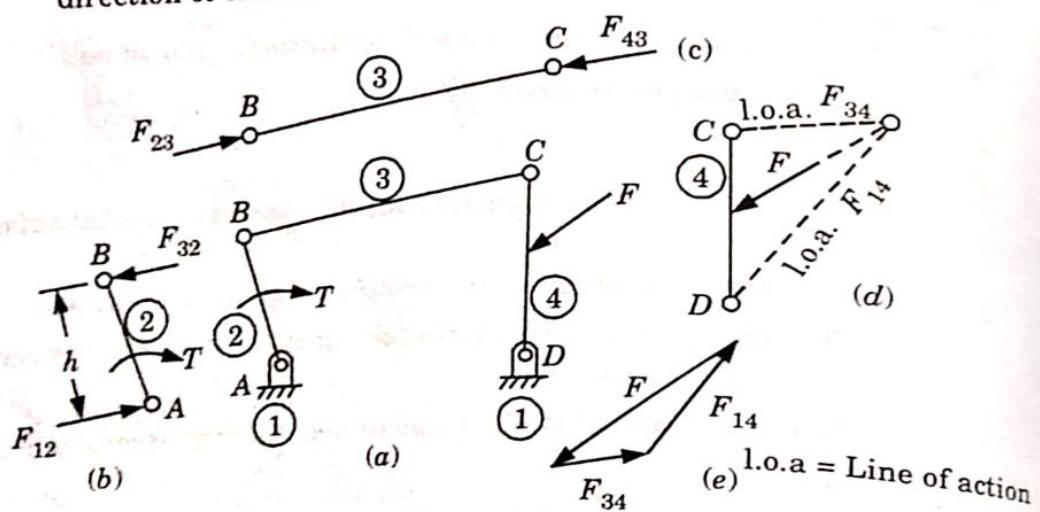

Fig. 3.2.1.
2. Fig. 3.2.1(a) shows a four link mechanism. The free body diagrams of its members 2, 3 and 4 are shown in Fig. 3.2.1(b), (c) and (d) respectively.
10. Link 3 is a two force member and for its equilibrium, F_{23} and F_{43} must act along BC . Thus F_{34} , being equal and opposite to F_{43} , also acts along BC . For the member 4 to be in equilibrium, F_{14} passes through the intersection of F and F_{34} . By drawing a force triangle (F is completely known), magnitude F_{14} and F_{34} can be known [Fig. 3.2.1(e)].